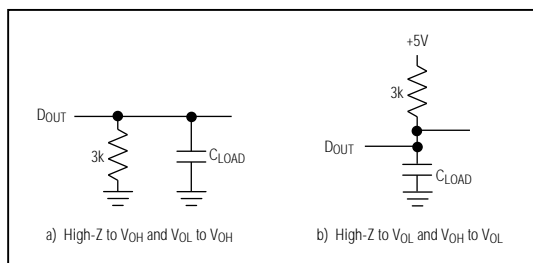

Figure 2. Load Circuits for Enable Time
**Note 12:**  $t_{DO}$  is measured with the load circuits of Figure 2 and defined as the time required for an output to cross 0.8V or 2.4V.